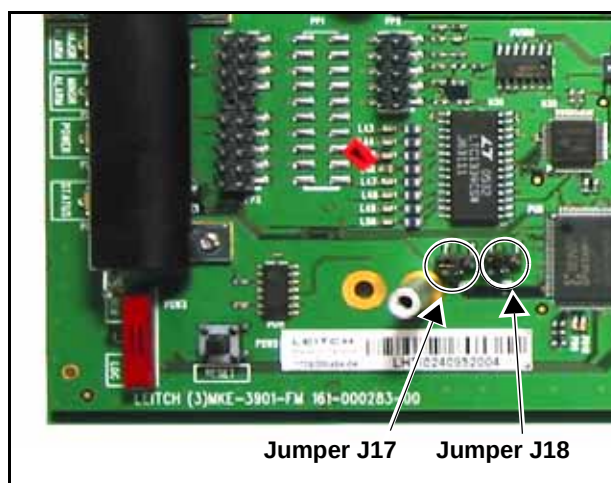

Figure 2-21. Jumpers for Serial Port Standard¹
- J17 and J18: Serial E and Serial A port standards (see Figure 2-21 for the location)